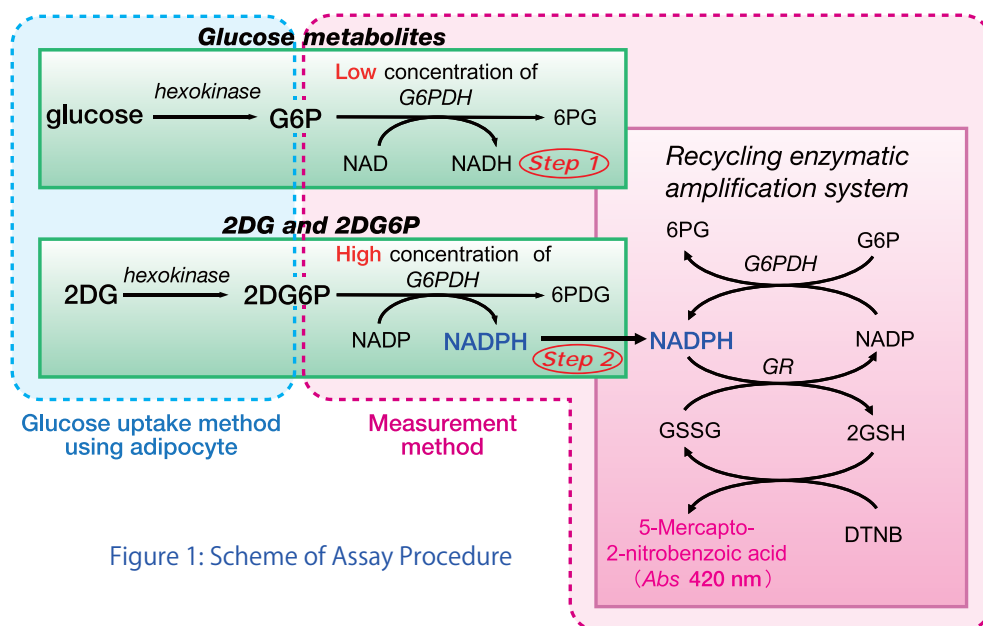

Figure 1: Scheme of Assay Procedure
2. Elimination of NAD(P)H with HCl, which removes endogenous NAD(P)H as well as NADH produced in Step 1 in Figure 1.
4. Elimination of NAD(P)⁺ and G6PDH that remains after Step 2 in Figure 1 with NaOH.